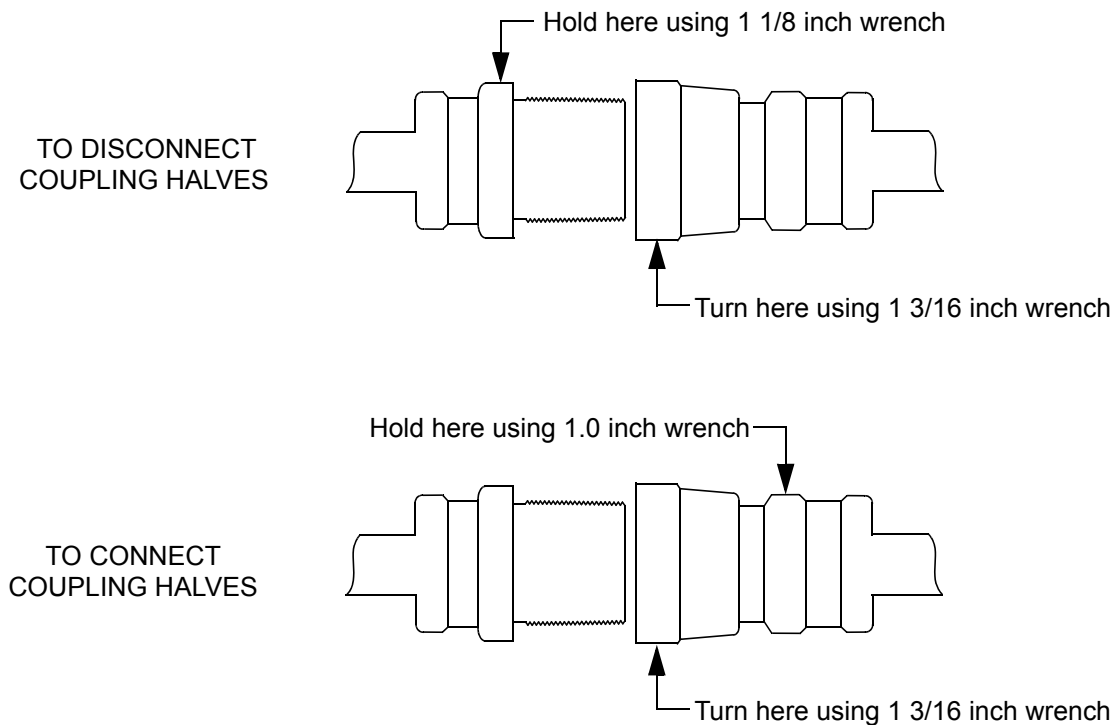

Figure 6-1: Disconnecting/Connecting Self Sealing Couplings
*NOTE: Use two wrenches in Step 3 to prevent loosening the body of the coupling. See Figure 6-1.*
8. Using two wrenches (see Figure 6-1), connect the two self sealing couplings on each adsorber.